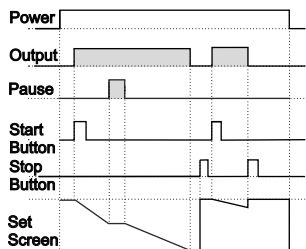

Figure 2.1
2.1.1 If Downcount **Decr**=1 and **OutF** is **On** the control diagram is shown in Figure 2.1